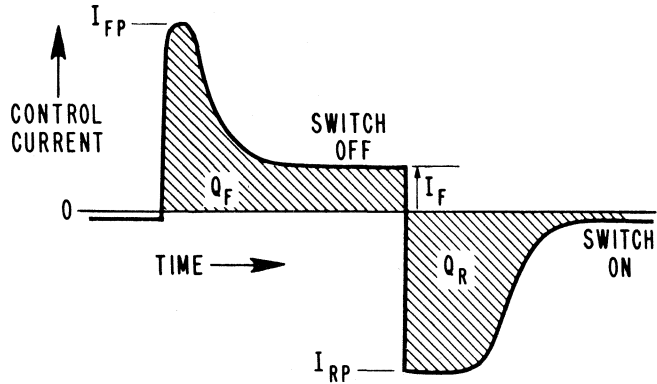

Figure 6. Control Current Pulse Shape for Fast Switching.
**Biasing for Fast Switching.** Faster switching can be obtained by operating at the lowest possible forward bias current consistent with the necessary isolation level. Faster switching may also be obtained by suitable shaping of the bias current waveform as illustrated in Figure 6.